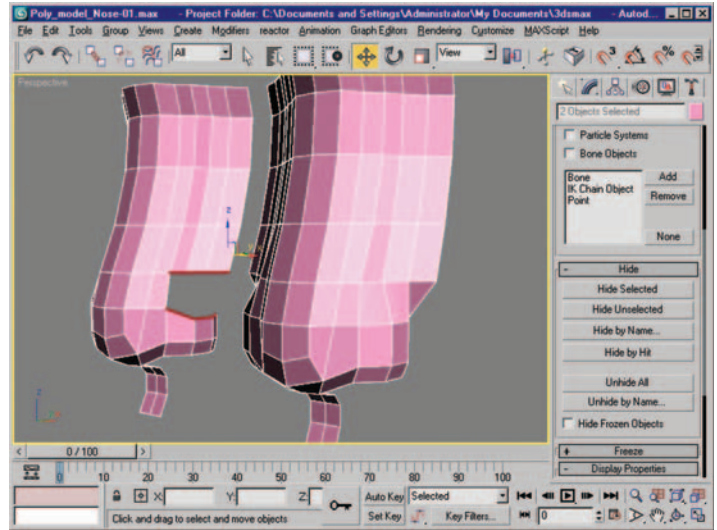

Figure 3.20 Edge selection and resulting mesh.
23. Once you have finished moving the new polygons into position, what you should be left with is a mesh with a gap between the nostrils and the upper/side portion of the nose. The edges that comprise the top and bottom of this gap are going to be equal in number, three on the top and three on the bottom. Nice, huh? Figure 3.20 shows the edge selection (left mesh).
24. Select the six edges (total) and simply use the Bridge tool to fill this gap (Figure 3.20, right mesh).